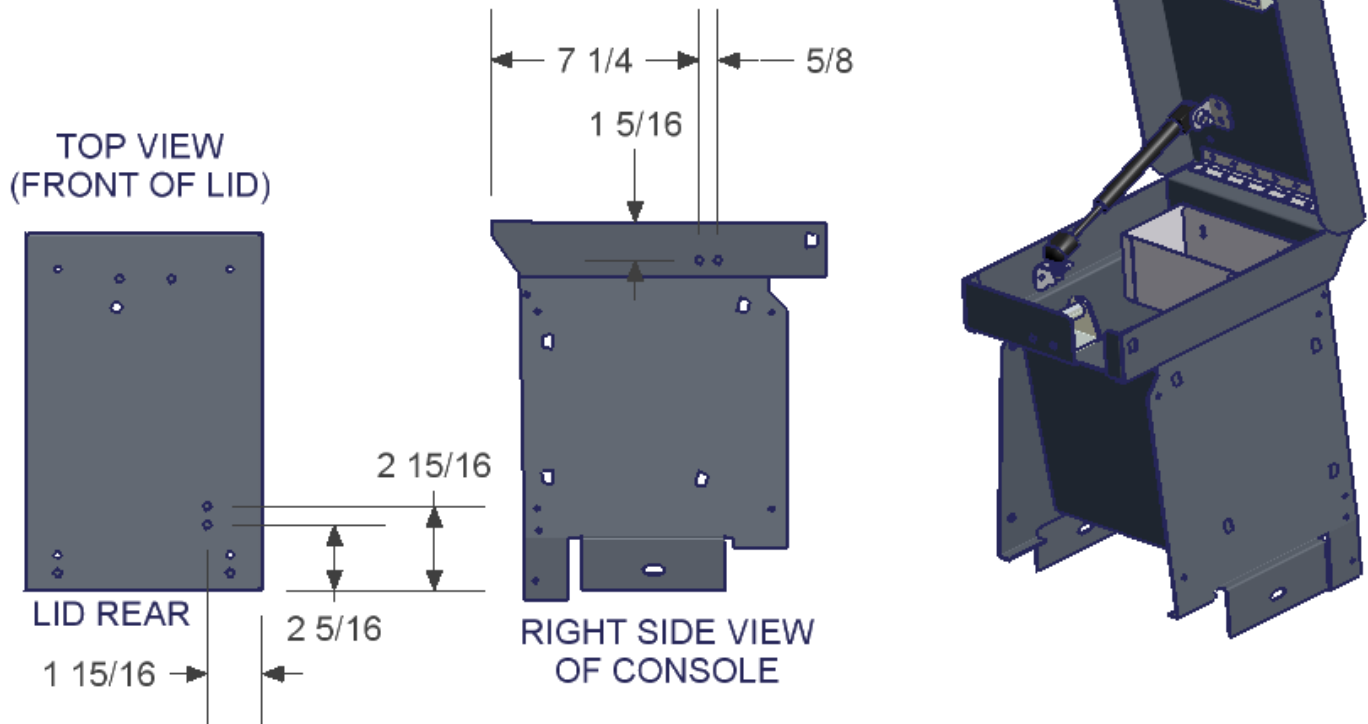

FIGURE 6 (PART# 139/144 JK CONSOLE INSERT ONLY)
4. Attach the top end of the #3 Gas strut to the #7 Bracket for the lid and fasten it to the holes drilled in the lid using the illustrated hardware. (See Figure 6)